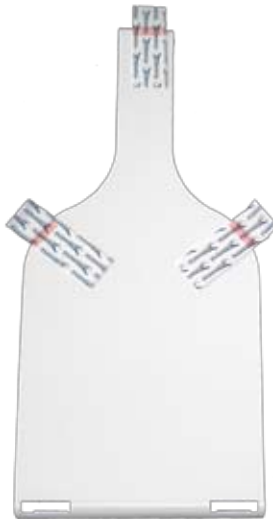

figure 2.
2. **Apply Strips:** Remove one liner from each of three removable wall tapes. Apply all three strips to back of MOUNTING BRACKET as illustrated in figure 2. Press tape firmly to MOUNTING BRACKET for 5 seconds in all 3 locations.